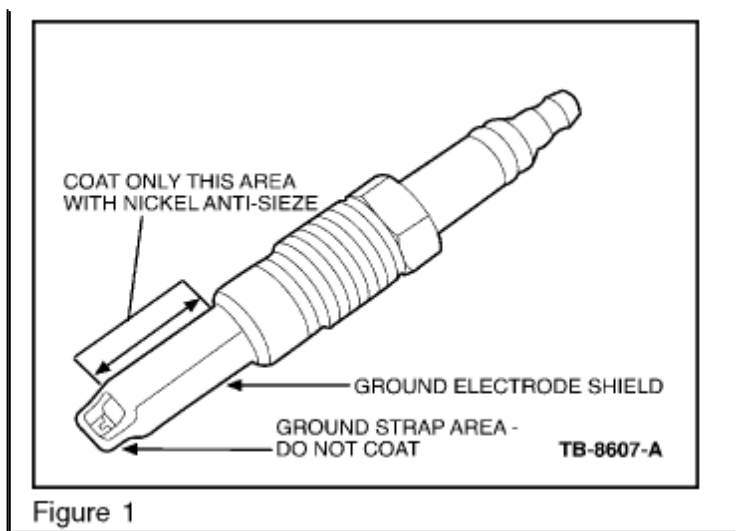

Figure 1
**NOTE** NEW PLUGS SHOULD BE INSTALLED USING A FILM COATING OF MOTORCRAFT HIGH TEMPERATURE NICKEL ANTI-SEIZE LUBRICANT ON THE GROUND ELECTRODE SHIELD. DO NOT COAT THE ELECTRODE STRAP. (Figure 1)